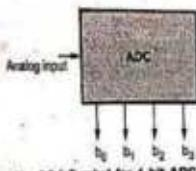

Fig. 6.6.1 Symbol for 4 bit ADC
- Fig. 6.6.1 shows symbol for A/D converter.